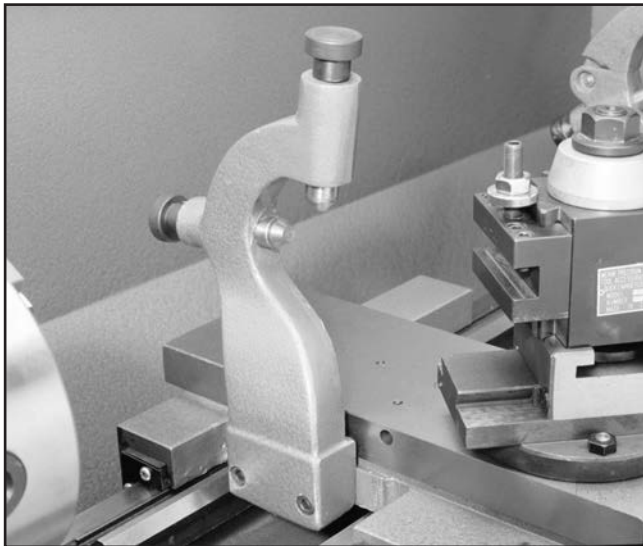

Figure 11. Follow rest secured to saddle.
1. The follow rest is secured to the saddle with two cap screws. See **Figure 11**.